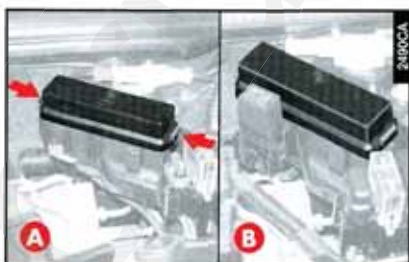
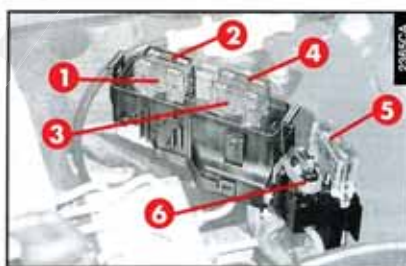

fig. 31
fig. 32 - T.SPARK engines
– T.SPARK engines - **A-fig. 31** and **fig. 32**
– 1.9 JTD engine - **B-fig. 31** and **fig. 33**.